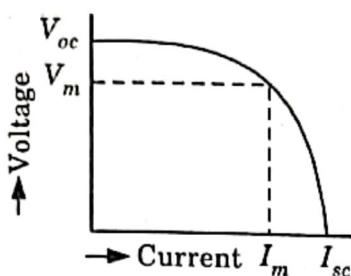

Fig. 1.12.1. Voltage-current (V-I) characteristic of a solar cell.
1. The electrical characteristics of a solar cell are expressed by the voltage current ($V-I$) curves plotted under a given illumination and temperature conditions as shown in Fig. 1.12.1.
2. In Fig. 1.12.1, the maximum useful power of the cell is represented by the rectangle with the largest area.
5. Cell quality is maximum when the value of 'fill factor' approaches unity, where the fill factor (FF) is expressed as